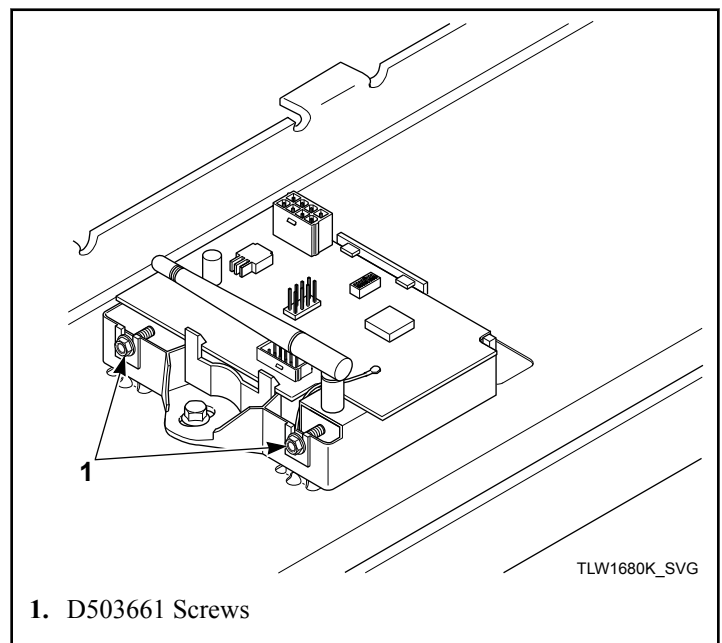

Figure 3
- Position 807211 Wireless Network Control Assembly so that the mounting tabs on the Network Board go in front of the tabs on the control panel and the assembly mounts to the right of the mounting tabs, as shown in *Figure 3*. (The control should be to the right of the mounting tabs.) Then attach using the (2) D503661 Screws. Refer to *Figure 3*.